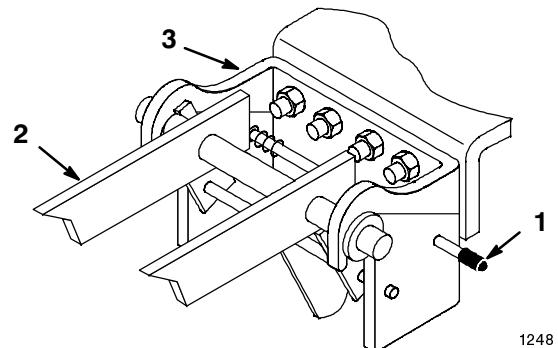

Figure 19
15. Open front hitch lock (Fig. 19) and remove snowblower mounting frame from front hitch.